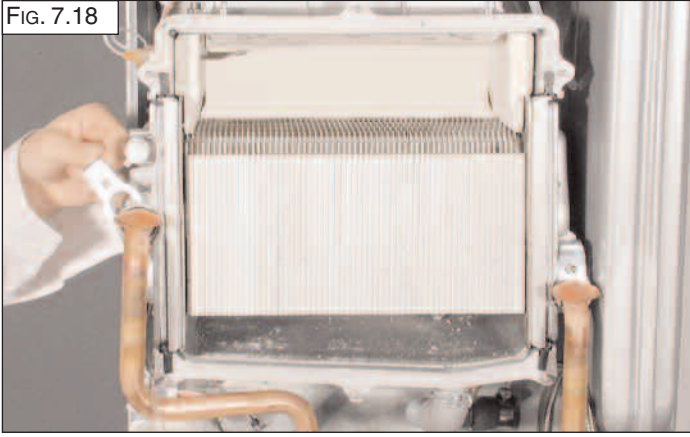

FIG. 7.22
7. Remove the "U" clip "P" (FIG. 7.21) and remove the C.H. return water pipe (FIG. 7.22);